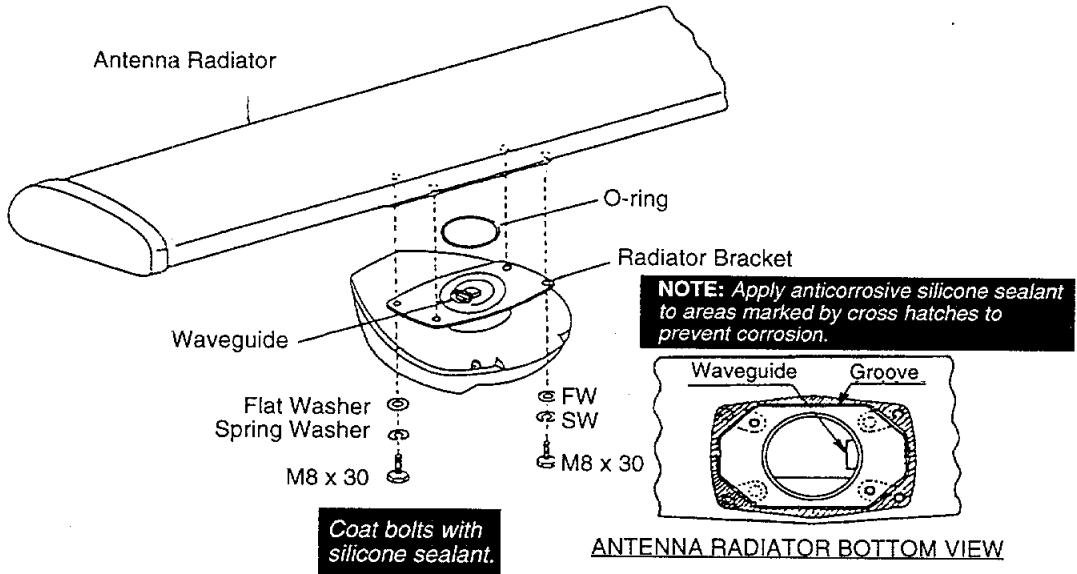
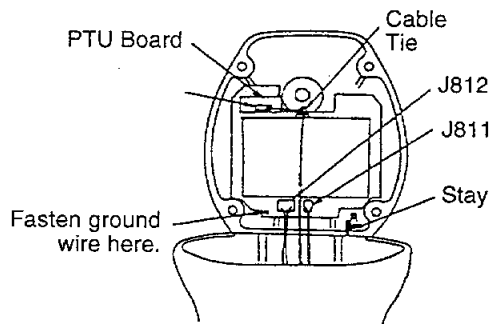

Figure 5-6 Fixing the radiator to the scanner housing
Figure 5-7 Scanner unit, cover opened
- 3) Now is the time to fix the radiator to the radiator bracket. Remove the rubber cap on the radiator bracket and orient the radiator bracket as shown in Figure 5-6. Referring to Figure 5-7, apply grease to the O-ring and set it to the center of the radiator bracket. Coat the radiator fixing bolts with silicone sealant. Fix the radiator to the radiator bracket with the FURUNO logo on the radiator facing ship's bow.
- 4) Open the scanner housing cover and fix the stay as shown in Figure 5-7.
- 5) One end of the cable with 15-, 9- and 7-way plugs has already been connected to the RTB Board inside the scanner housing. Mate the 15- and 9-way plugs with jacks J812 and J811 on the transceiver module, respectively. Connect the 7-way plug to jack J853 on the PTU Board. Secure the cable between the RTB Board and J701 with the cable tie as shown in Figure 5-7.
- 6) The black wire of the cable is the ground wire. Fasten it to the chassis of the transceiver module with the ground screw shown in Figure 5-7.